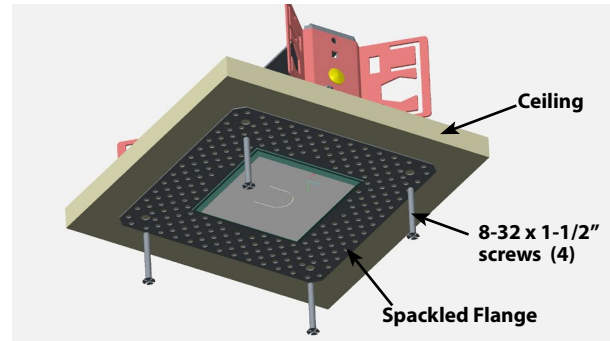

Fig: 3
1. Place **Spackle Flange** on ceiling and align the opening with the ceiling cutout. Carefully mark the (4) hole pattern on ceiling and remove **Spackle Flange**.
2. For New Construction (Fig: 3): Use a 7/32" drill bit to drill ceiling typical 5/8" ceiling depth. Align rib of **Spackle Flange** to rib in **Rough-in**. Insert the **Spackle Flange** and secure with 8-32 x 1-1/2" machine screws.